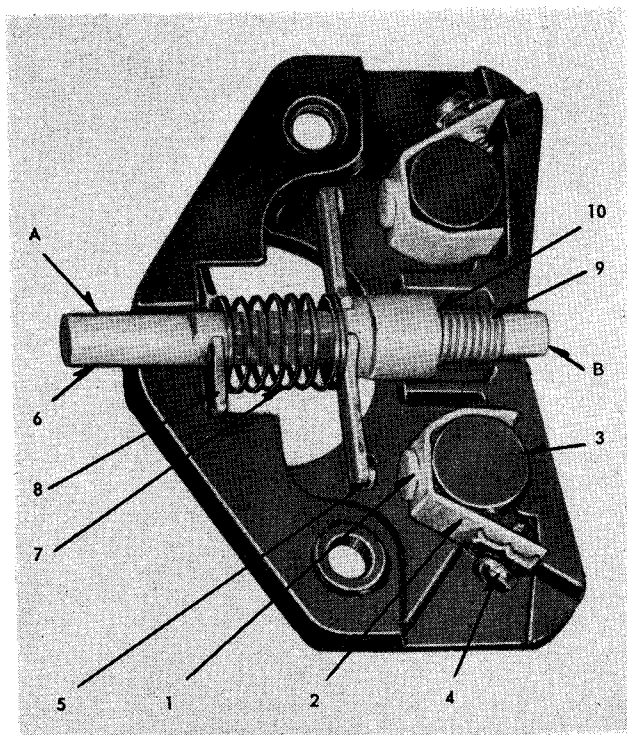

FIG. 3. Internal Parts of Interlock
2. Move the spring seat (8) against the spring (7), and rotate it about the pushrod until the spring seat snaps and locks into the two triangular shelves in the moulded housing.
3. Note that the contacts are now closed and that the interlock is operated by pushing end "B" (See Fig. 3) of the pushrod.
2. Move the spring seat (8) against the spring (7), and lift it out of the triangular shelves in the moulded housing. Rotate the spring seat about the pushrod until the spring seat snaps into the open position.
3. Note that the contacts are now open and that the interlock is operated by pushing end "A" (See Fig. 3) of the pushrod.